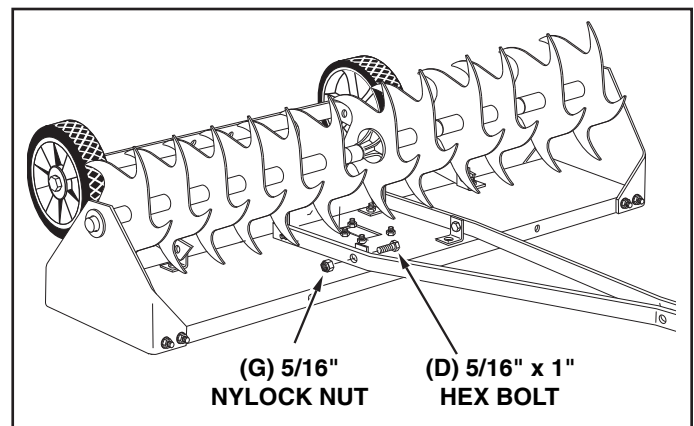

FIGURE 12
19. Fasten the hitch mount arms to the outside of the angle brackets at the front of the tray using two 5/16" x 1" hex bolts (D) and 5/16" nylock nuts (G). **Tighten** and then loosen the nuts 1/4 turn. See figure 12.